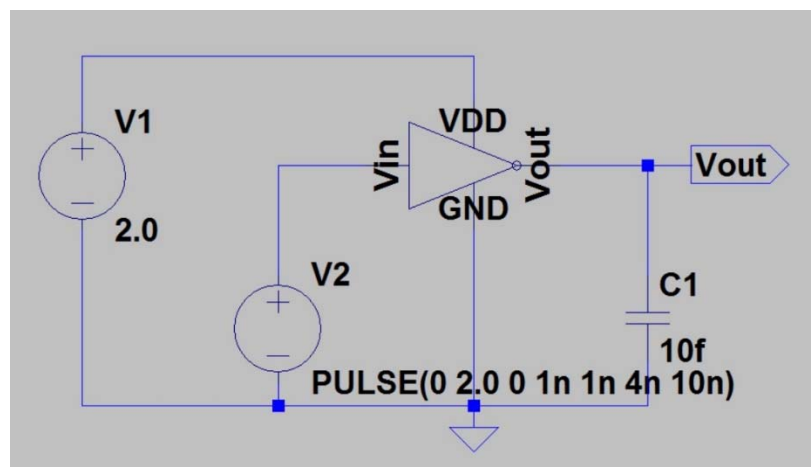

Figure 16. Test bench of the inverter
- F. Click  to connect the symbols as Figure 16.
The test bench has been created as Figure 16.